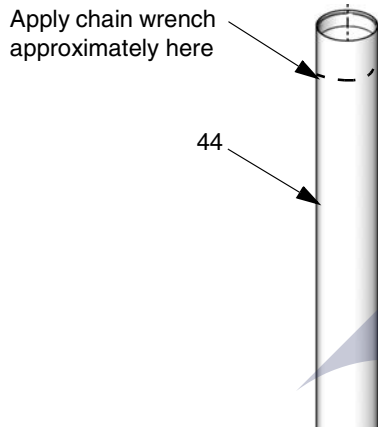
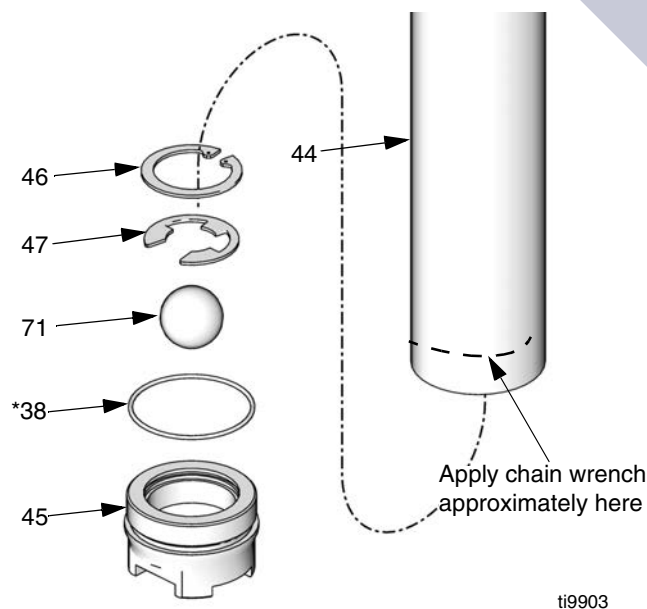

FIG. 16
FIG. 17
1. Use a chain wrench near the top of the suction tube at the point indicated in FIG. 16, and a wrench on the flats of the foot valve (45) to loosen the foot valve from the suction tube (44). To prevent damage to the suction tube, do not remove the foot valve until instructed to do so in step 3.
NOTE: When removing the suction tube, be very careful not to bend, dent, or damage it. To avoid damage, use the chain wrench only at the top and bottom of the suction tube as indicated in FIG. 16 and FIG. 17. Do not apply the wrench to the middle of the suction tube.
2. With the foot valve still in place to support the suction tube, use a chain wrench near the bottom of the suction tube at the point indicated in FIG. 17, to loosen the suction tube (44) from the pump body (34).
3. Remove the foot valve assembly from the suction tube (44).
4. Remove retaining ring (46), snap ring (47), ball (71), and o-ring (38*) from foot valve (45). Inspect all parts for damage. See FIG. 17.